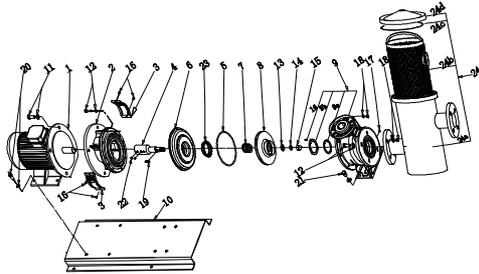

Fig.1
- The pump is mainly composed of motor, pump cover, impeller, pump body and mechanical seal. As shown in Fig 1